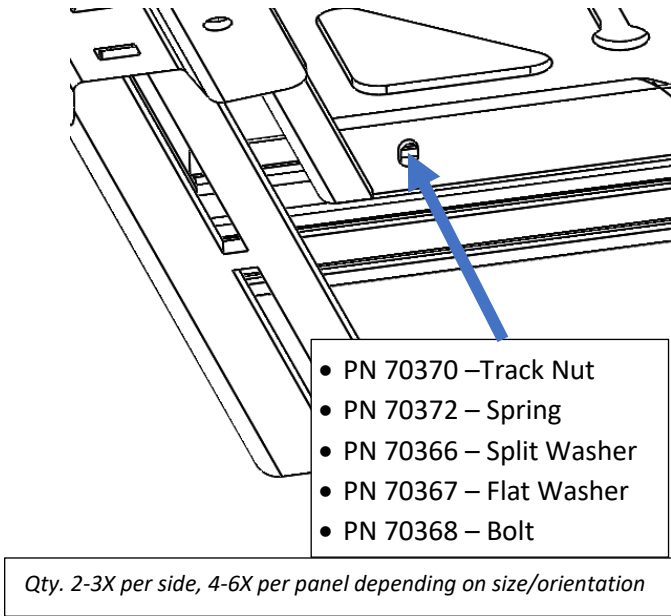

Figure 6: Flooring Panel Fastening Technique (Underside)
6. Slide track nuts into the desired installation position on cross bar. Use flooring panel to space track nuts appropriately. Tighten down using 1/4"-20 hardware. (Reference *Figure 5* - *Figure 6*).